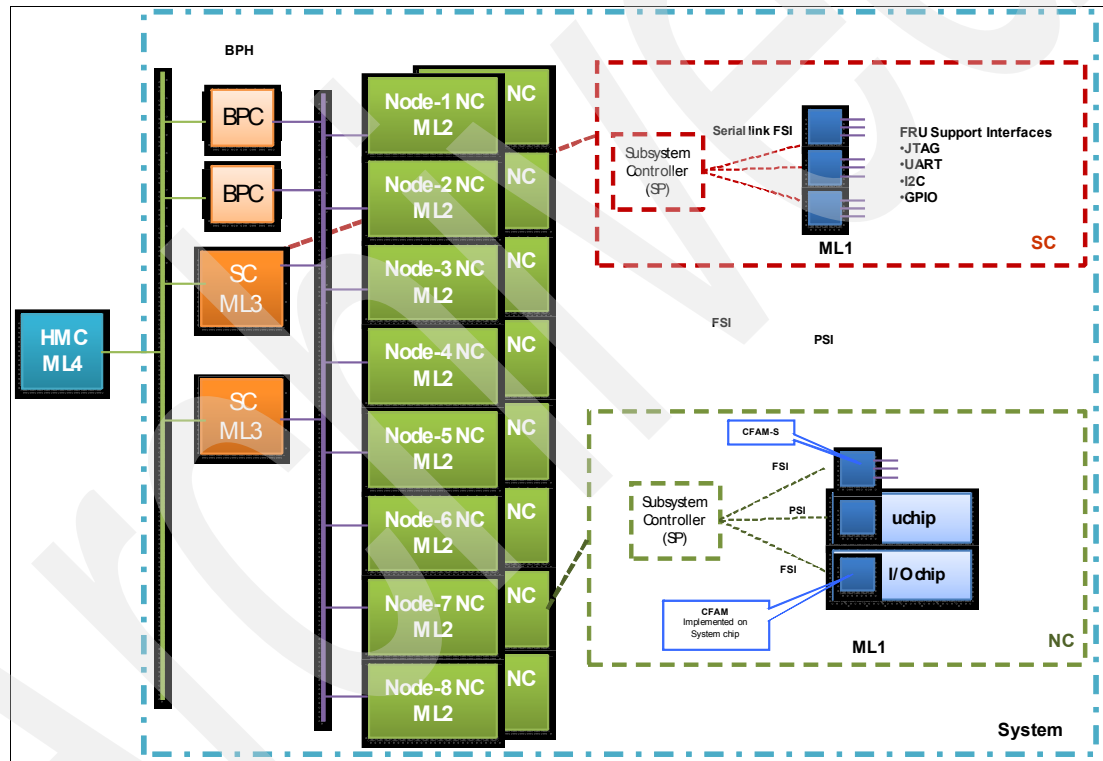

Figure 2-7 System Control Structure (SCS) architecture
Figure 2-7 shows a high-level view of a Power 595, together with its associated control structure. The system depicted to the right is composed of CEC with many processor books and I/O drawers.
In addition to the functional structure, Figure 2-7 also shows a system-control infrastructure that is orthogonal to the functional structure.
The Figure 2-7 on page 44 also shows that SCS is divided into management domains or management levels, as follows:
Referring again to Figure 2-7 on page 44, in addition to its intra-cage control scope, the NC interfaces with a higher-level system-control entity as the system controller (SC). The SC operates in the ML3 domain of the system and is the point of system aggregation for the multiple processor books. The SCS provides system initialization and error reporting and facilitates service. The design goal for the Power systems function split is that every Node Controller (ML2 controller) controls its node as self-contained as possible, such as initializes all HW components within the node in an autonomic way.
Further to the right in Figure 2-7 on page 44, the downstream fan-out into the sensors and effectors is shown. A serial link, the FRU Support interface (FSI), is used to reach the endpoint controls.